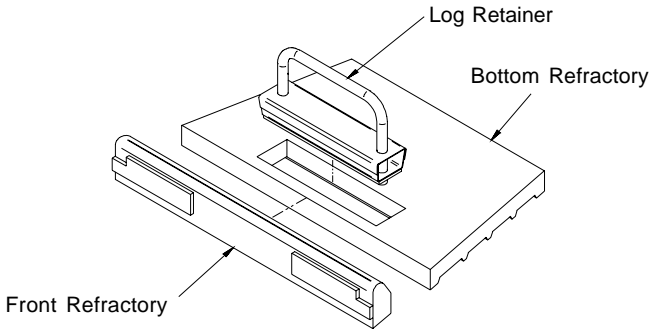

FIGURE 3 - Front, Bottom Refractory
**Step 2.** Remove the Bottom Refractory by lifting and sliding it forward enough to clear the Front Refractory (see Figure 3).